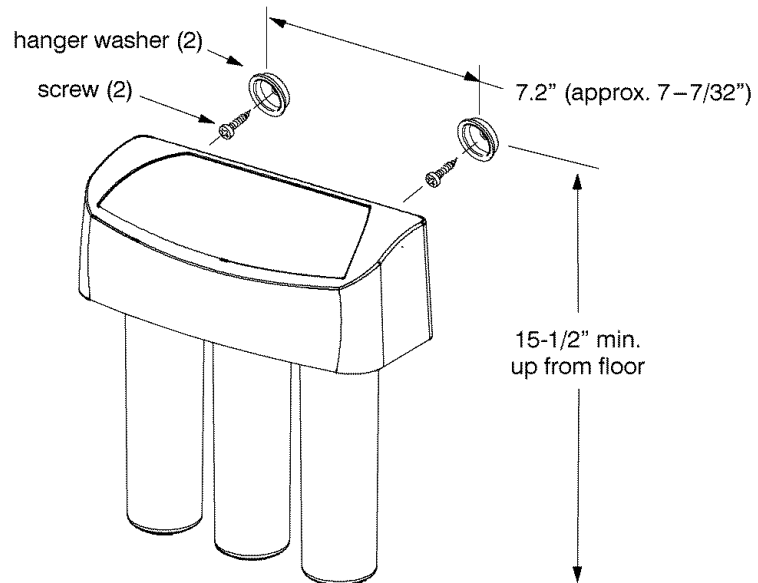

Figure 8
1. Refer to Figure 8 for wall mounting. Hold the assembly up to the wall surface and mark locations for the hanger washers. Distance needed is 7.2" (approx. 7-7/32") apart.